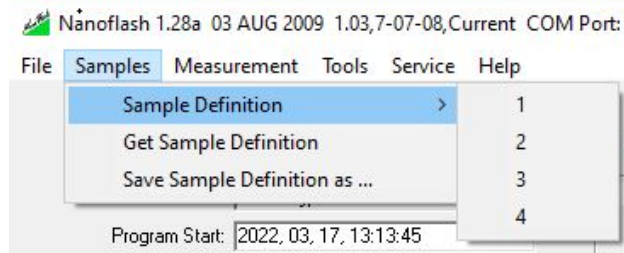

Figure 14. Sample definition using the Sample tab.
- To enter the sample information, right-click on one of the empty sample boxes or select Sample Definition from the Samples tab (as shown in Figure 14).
- Choose 1 through 4 to start entering the information for each sample (as shown in Figure 14).